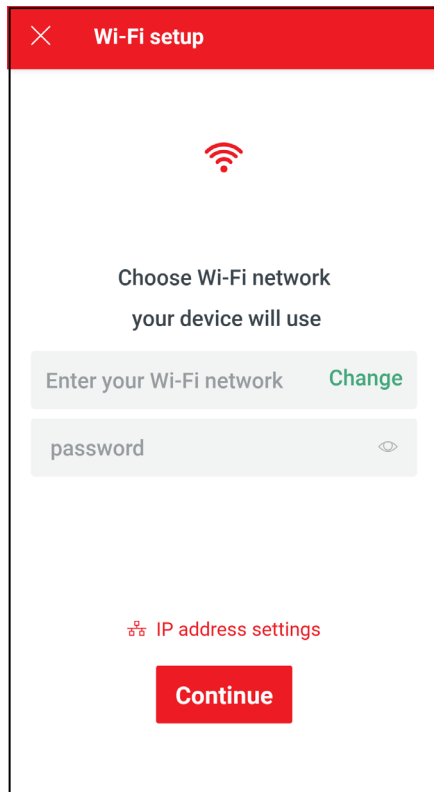

Figure 85. Wi-Fi Setup
4. The "Wi-Fi setup" screen will appear. Select or enter the Wi-Fi network you want your unit to be connected to and enter the network password. See **Figure 85**.